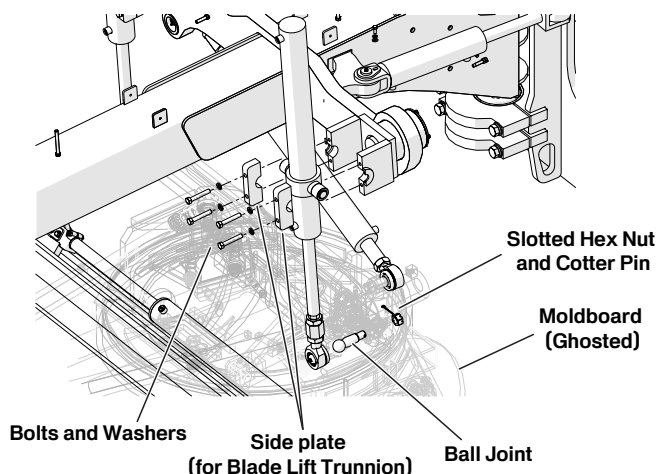

Figure 5-43. Lift Cylinder
3. Thoroughly clean moldboard tilt cylinder (Figure 5-43), especially areas surrounding hydraulic hoses and fittings.
6. While supporting cylinder, remove bolts, washers, and trunnion side plates (on the circle/arms weldment) (Figure 5-43).